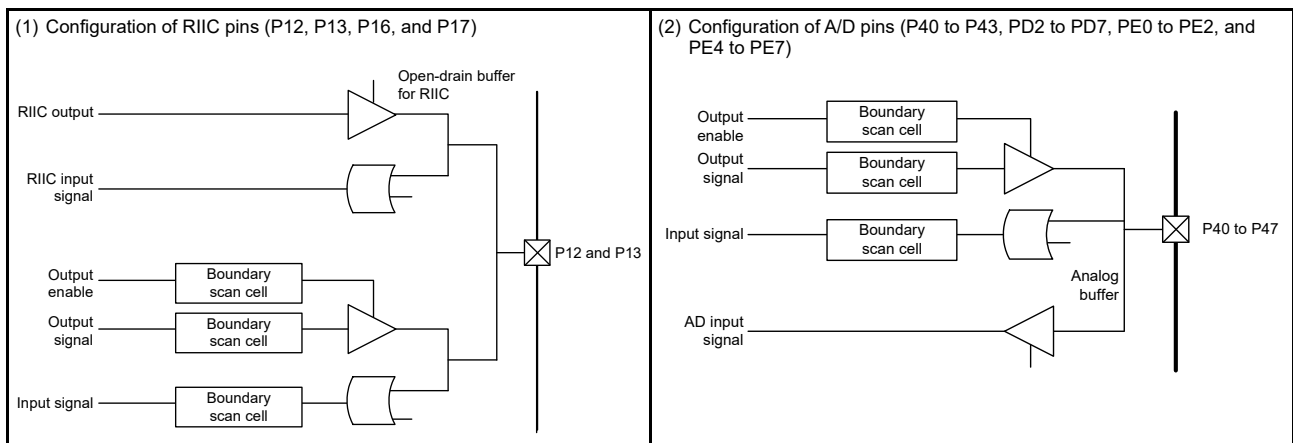

Figure 4.4 Pin Configuration
- (6) The reset pin (RES#) is not covered by boundary scan.
- (7) The USB dedicated pins (USB0_DP and USB0_DM) are not covered by boundary scan.
- (8) The on-chip emulator enable pin (EMLE) is not covered by boundary scan.
- (9) The boundary scan enable pin (BSCANP) is not covered by boundary scan.
- (10) The boundary scan pins (TCK, TMS, TRST#, TDI, and TDO) are not covered by boundary scan.
- (11) The RF transceiver pins, shown in Table 1.4, Pin Functions, are not covered by boundary scan.
- (12) The boundary-scan facility is not available when the chip is in the states below.
- (13) For a pin that incorporates open-drain functionality and for which the open-drain function is enabled, if the boundary-scan function sets the corresponding bit in the output scan register and output enable register to 1, executing an EXTEST, CLAMP, or SAMPLE/PRELOAD instruction makes the pin output the high level rather than placing it in the high-impedance state.
- (14) Be sure to satisfy the standards for the boundary scan function when multiplex ports are used. Figure 4.4 (1) shows the pin configuration of the port pins on which the RIIC pin functions (P12, P13, P16, and P17) are multiplexed. When the boundary scan function is to be used while pins P12, P13, P16, and P17 are in use as the RIIC pins (SCL0[FM+], SCL2, SDA0[FM+], and SDA2), contention with the open-drain outputs or sneak current might be generated.
- (15) Figure 4.4 (2) shows the pin configuration of the pins P40 to P43, PD2 to PD7, PE0 to PE2, and PE4 to PE7. When the boundary scan function is used with pins P40 to P43, PD2 to PD7, PE0 to PE2, and PE4 to PE7 to be used as AD input pins (AN000 to AN003, ANEX0, ANEX1, AN100, AN102 to AN107, and AN110 to AN113), the conflict with the AD input or sneak current might be generated.
- (16) The HIGHZ mode option of the MD pin is not available.